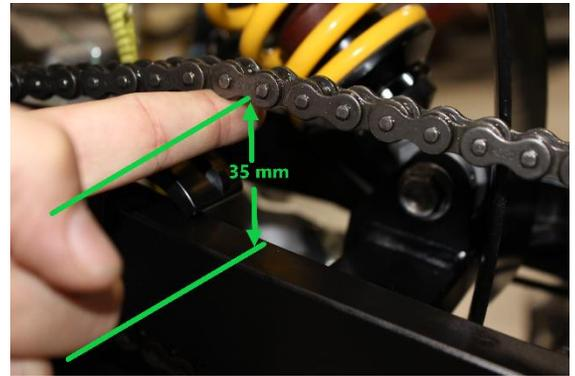

Figure 2
2. For proper adjustment, the chain should have 35mm (1.378") free movement just behind the chain guard with no load on the bike (figure 2)